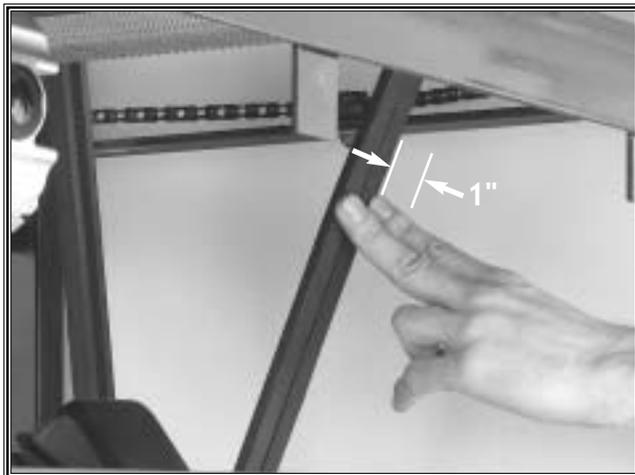

Figure 37. Belt deflection (1").
3. At the halfway point between the drum pulley and the motor pulley, push on both belts with moderate finger pressure. The looseness or deflection must be approximately 1". See Figure 37.